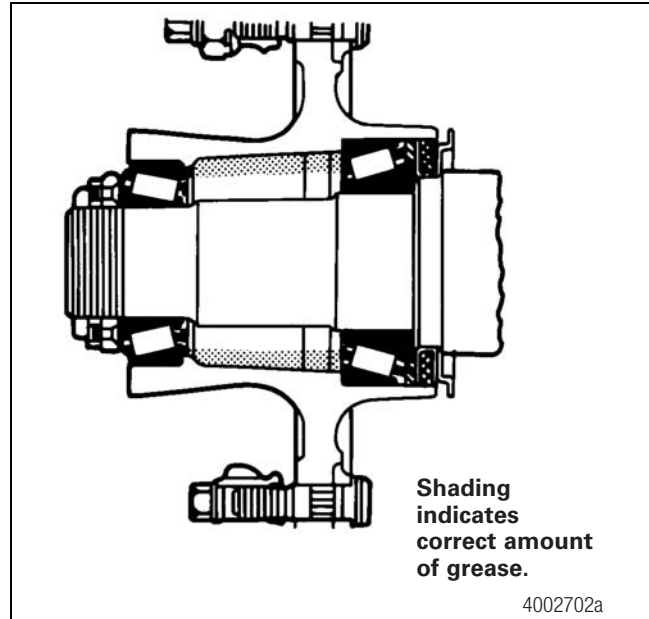

Figure 13.7
- C. Pack the area of the hub between the two bearings with grease up to the smallest diameter of the bearing cups. Figure 13.7.